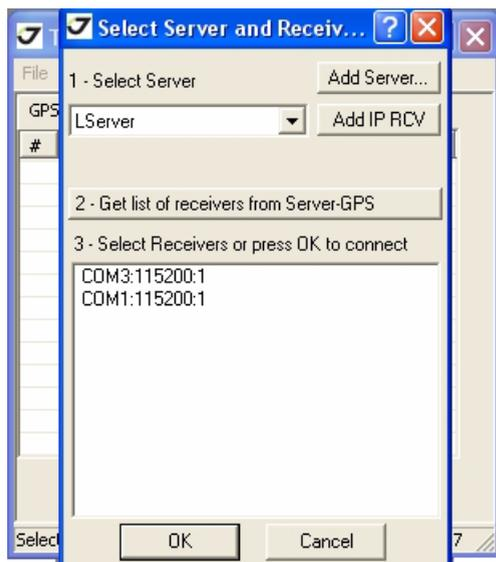

Figure 3-12. Connection Parameters
2. Start TriVU. Select the COM port and click Ok (Figure 3-12).